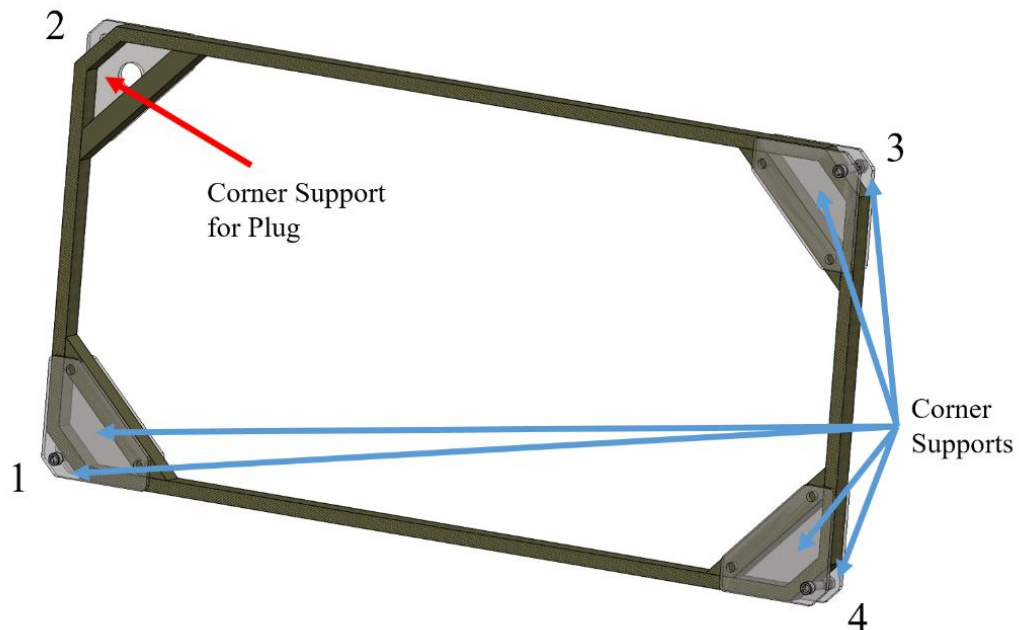

Figure 7.1
2. Epoxy the Corner Supports (PN THBC005) and the Corner Support for Plug (PN THBC006) to the Large Coil. Corners 1, 3, and 4 as shown in Figure 7.1 will each have two Corner Supports (THBC005) epoxied to them, while corner two will have the one Corner Support for Plug (THBC006) epoxied to it. One 2" 3/8"-16 bolt (PN OUTS002) and one 3/8"-16 nut (PN OUTS004) will be used to secure each outside corner of the two Corner Supports epoxied to each other for corners 1, 2, and 4. Corner 2 will only have the Corner Support for Plug epoxied to it as shown in Figure 7.1. Ensure that the Coil Support for Plug is epoxied to the back of the coil as it is shown in the configuration below, with the bolt heads being on the opposite side of the coil from the Corner Support for Plug. When the Corner Support for Plug is bolted in later in the process, the nuts should be resting on its surface.